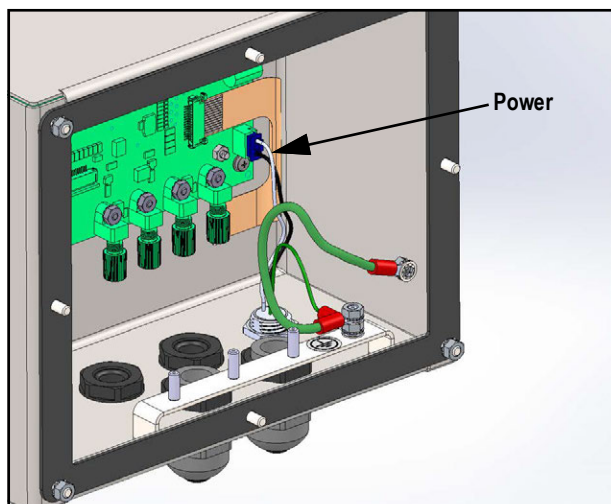

Figure 2-11. Connect DC Wiring
NOTE: The DC power cable should be attached to connector J4 (Figure 2-11 on page 25).
4. Run the other two wires up the side of the indicator and connect the three pin plug (PN 15888) to the power supply board as shown in Figure 2-11.